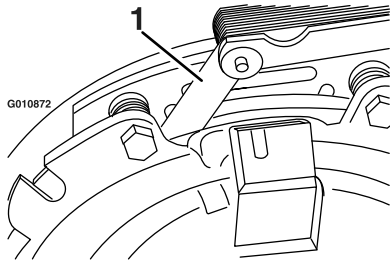
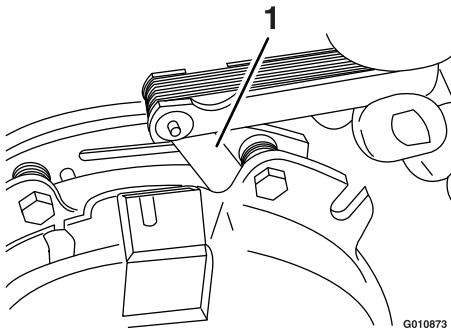

Figure 73
Figure 74
- E. Using a 0.010 inch thick-feeler gauge, verify that a gap is present between the rotor and armature face on both sides of the brake pole as shown in Figure 73 and Figure 74.